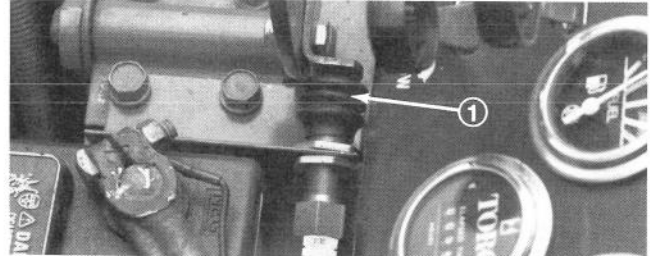

Figure 40
3. Remove boot from button end of PTO switch (Fig. 40). Retain boot for reinstallation. Separate switch wire connectors.